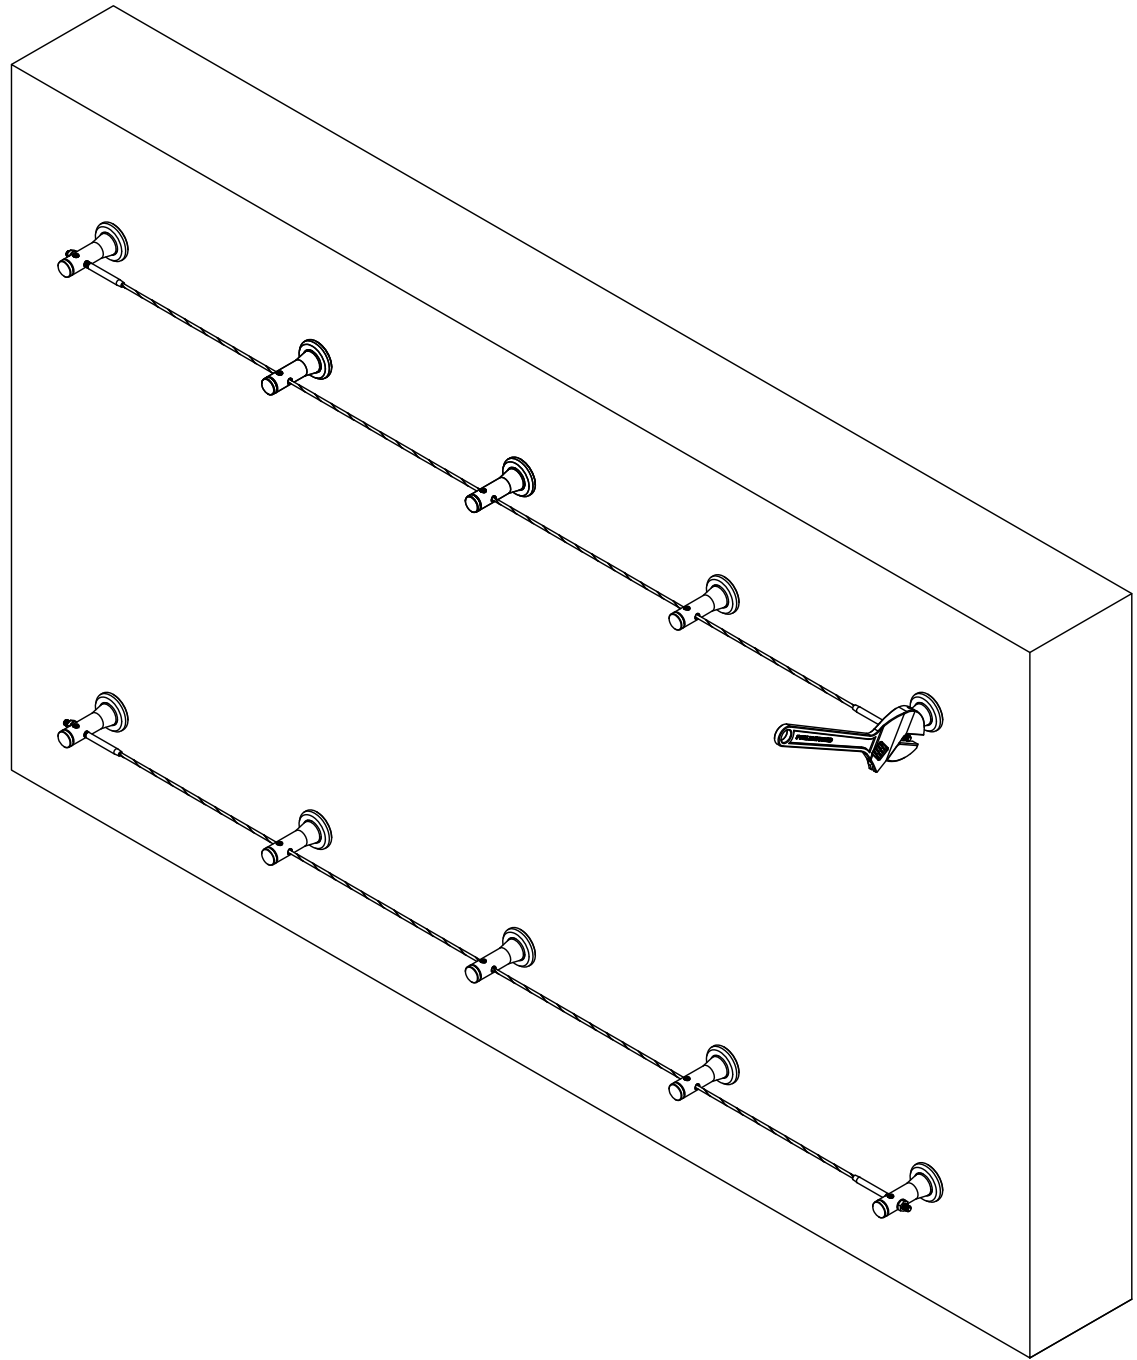

**FIG. 4.**
**HEAD SCREW. (FIG.4) AFTER SECURING THE STAND OFF**